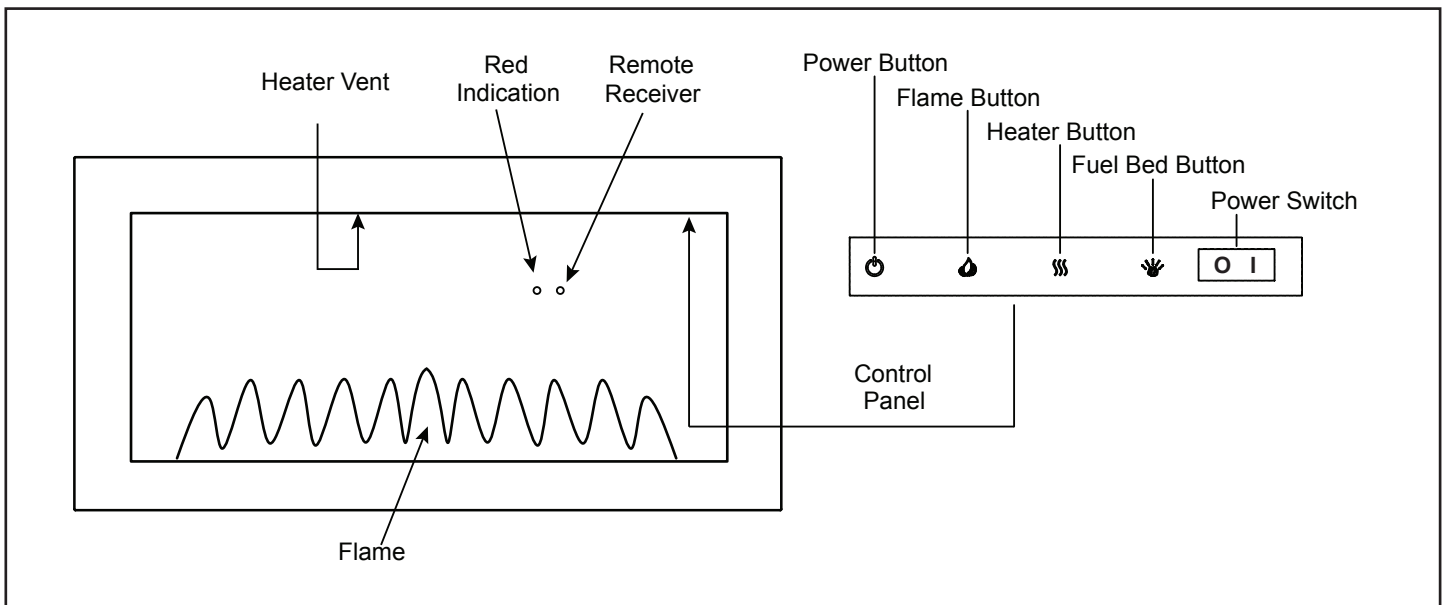

Figure 5.1 Manual Operating Switches and Indicator Lights
The appliance can be operated by both remote control and manual button located on appliance. Once the circuit breaker is switched ON, the main power switch can be switched to the 'ON' position. A beep should be heard when the power is first applied. See Figure 5.1.
- The remote control must be within the 16 ft. range and also be pointed directly at the face of the appliance. For best results, point the remote control toward the remote receiver location. See Figure 5.1.